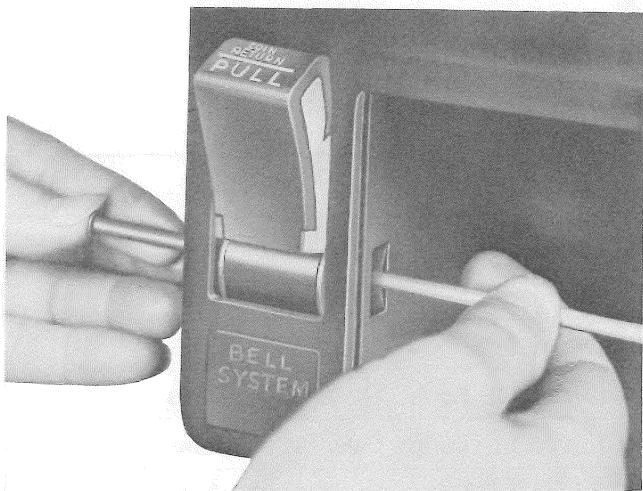

Fig. 49—Inserting Shaft in Housing
- (4) Insert and hold pull bucket in normal position.
- (5) Use orange stick or equivalent to line up holes in pull bucket and housing.
- (6) Insert P-27E462 stainless steel shaft in housing and force fit using hammer and drive punch (Fig. 49).